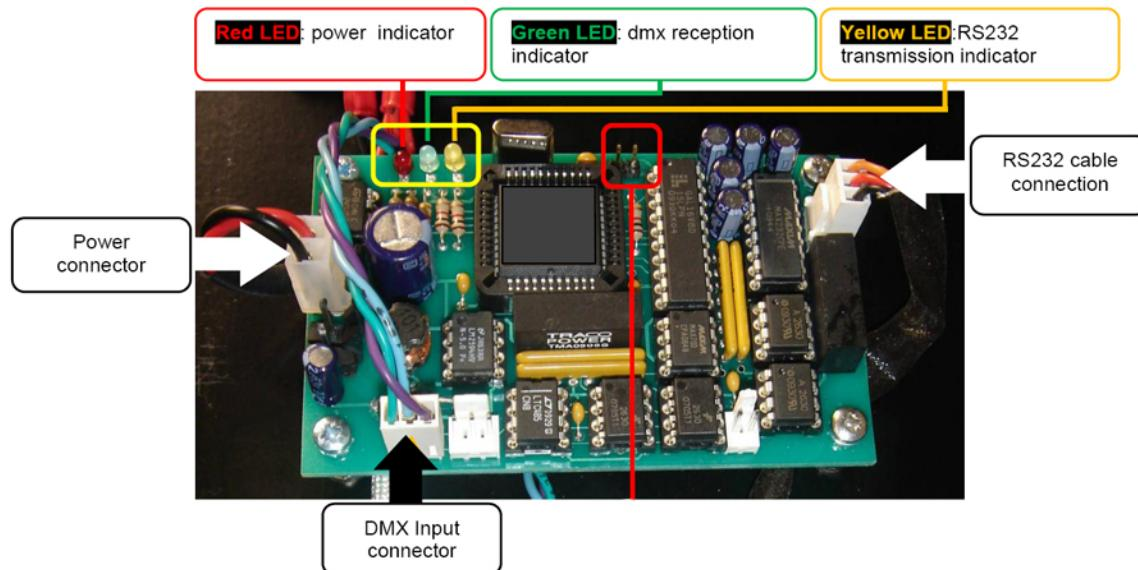

Figure 3-48 DMX/RS232 Board Detail
9. Figure 3-48 shows the DMX/RS232 board detail. For the Roadster Series, ensure that a jumper is **not** present on the pins highlighted in red.